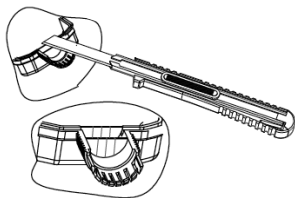

Fig. 2
- Feed the mains through the nut, seal and shell of each part – different size seals permit the use of different diameter cables (see Fig.2)